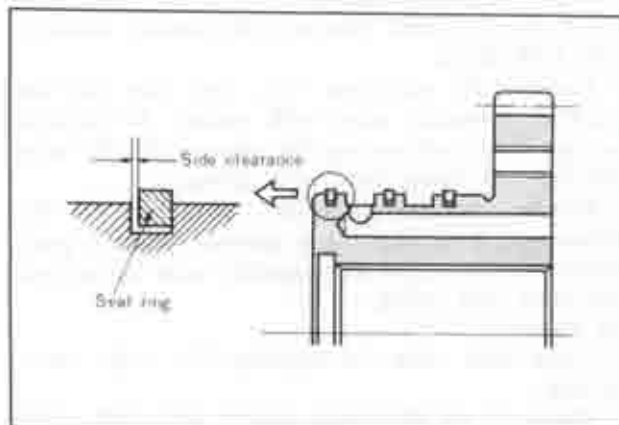

Fig. 7A-37 Clearance of oil seal ring
3. Check the side clearance between the sealing and groove as shown in Fig. 7A-37. The standard clearance is $0.04 \sim 0.16 \text{ mm}$ ($0.002 \sim 0.006 \text{ in}$). When disassembling the seal ring, squeeze it up so that its joint will rise above the groove, and disconnect the joint.